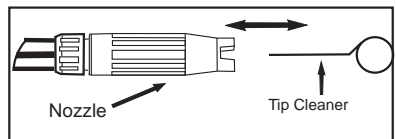

Figure 4 Insert tip cleaner in nozzle hole and move back and forth until debris is dislodged
- Insert tip cleaner into the nozzle hole and move back and forth until debris is dislodged (see Figure 4).